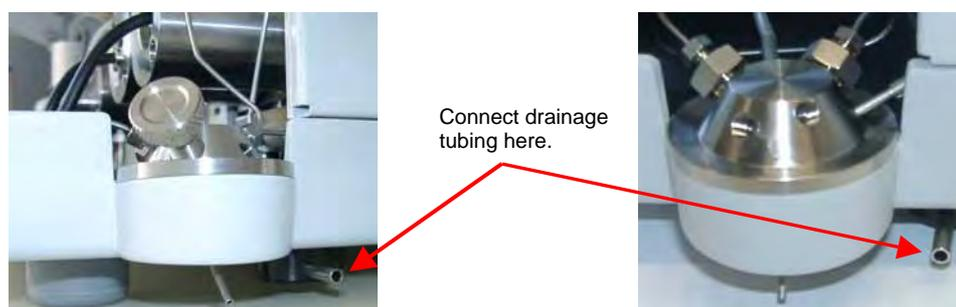

Fig. 3: Waste outlet (left: all P680 pumps except P680A DGP-6; right: P680A DGP-6)
**i Please note:** Drainage tubing can be connected at the bottom right of the unit to direct liquid leaks to the waste (→ Fig. 3). To prevent damage to the pump, make sure that no part of the tubing is placed higher than the connection port.